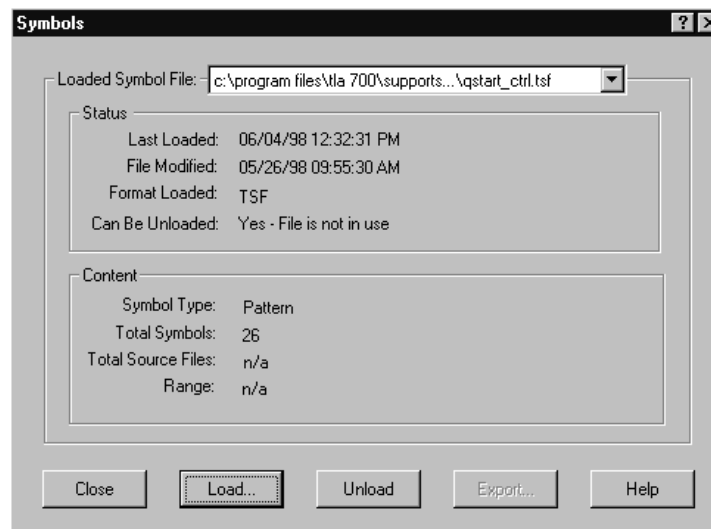

Figure 4–14: Symbols dialog box
1. Select Symbols from the System menu. The Symbols dialog box appears (Figure 4–14).